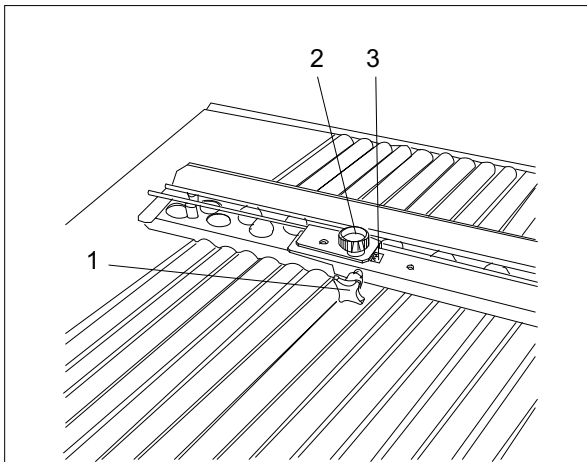

Fig. 75 Angle adjustment
You can change the angle by means of an adjustment screw (Fig. 75/1). A scale (Fig. 75/3) facilitates the setting.
1. Loosen the lock screw (Fig. 75/2) by turning it counter-clockwise.
2. Make the correction with the adjustment screw (Fig. 75/1).
3. Secure the lock screw (Fig. 75/2) by turning it clockwise.